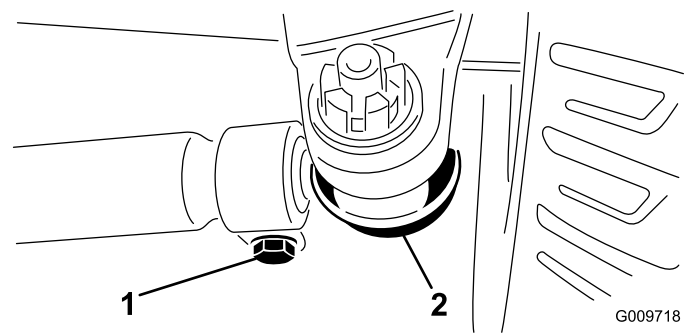

Figure 50
3. Loosen the clamps at both ends of the tie rods (Figure 50).
4. Rotate the detached ball joint inward or outward one (1) complete revolution. Tighten clamp at loose end of tie rod.
5. Rotate the entire tie rod assembly the same direction (inward or outward) one (1) complete revolution. Tighten clamp at connected end of tie rod.
2. To adjust, remove the cotter pin and nut from either tie rod ball joint (Figure 50). Remove tie rod ball joint from axle case support.